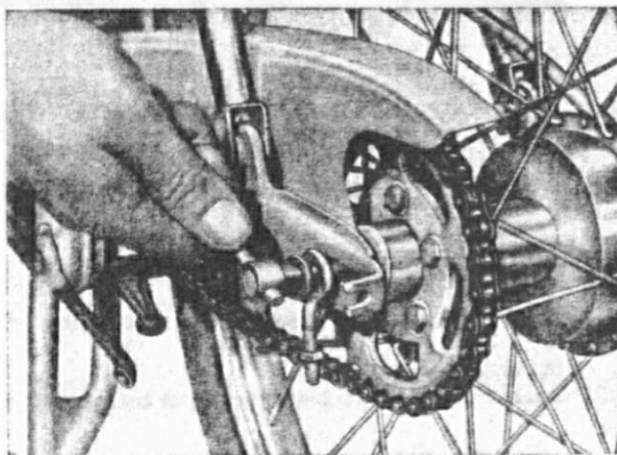

Fig. 22: Removal of rear wheel
2. Insert mandrel in the cross-bore hole of the left-hand stub-axle end and pull out stub-axle (Fig. 22). Now the wheel will drop out. Detach brake back plate, but leave it suspended from the brake cable.